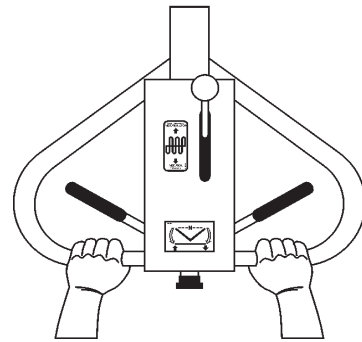

Figure 27. Forward and Reverse Control Levers Neutral Position
1. With the engine running, both directional and speed control levers (Figure 27) should be in their neutral positions.